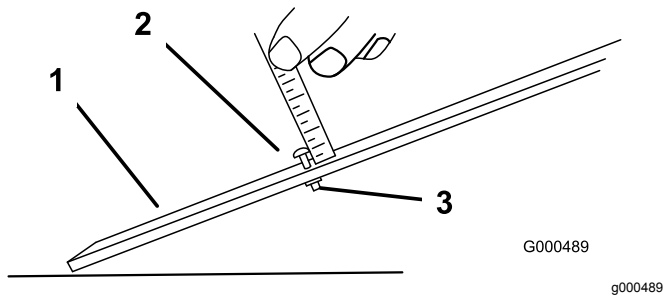

Figure 13
1. Loosen the nut on the gauge bar and set the adjusting screw to the desired height of cut (Figure 13).